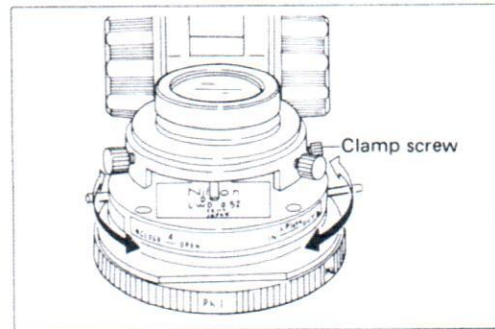
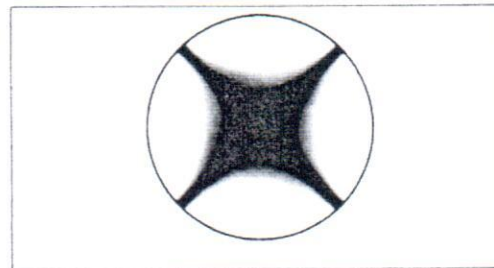

Fig. 13
Fig. 14
- ⑨ Slightly release the clamp screw of the condenser and rotate the condenser to a little degree as shown in Fig. 13, until a dark cross image, as shown in Fig. 14, appears, and fasten up the condenser clamp screw.